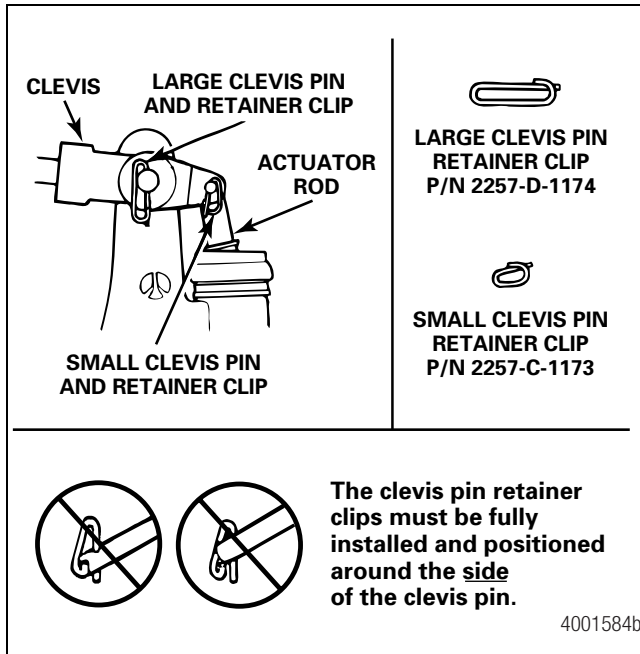

Figure 6.7
12. Install new cotter pins or clevis pin retainer clips to hold the clevis pins in place. Figure 6.7.